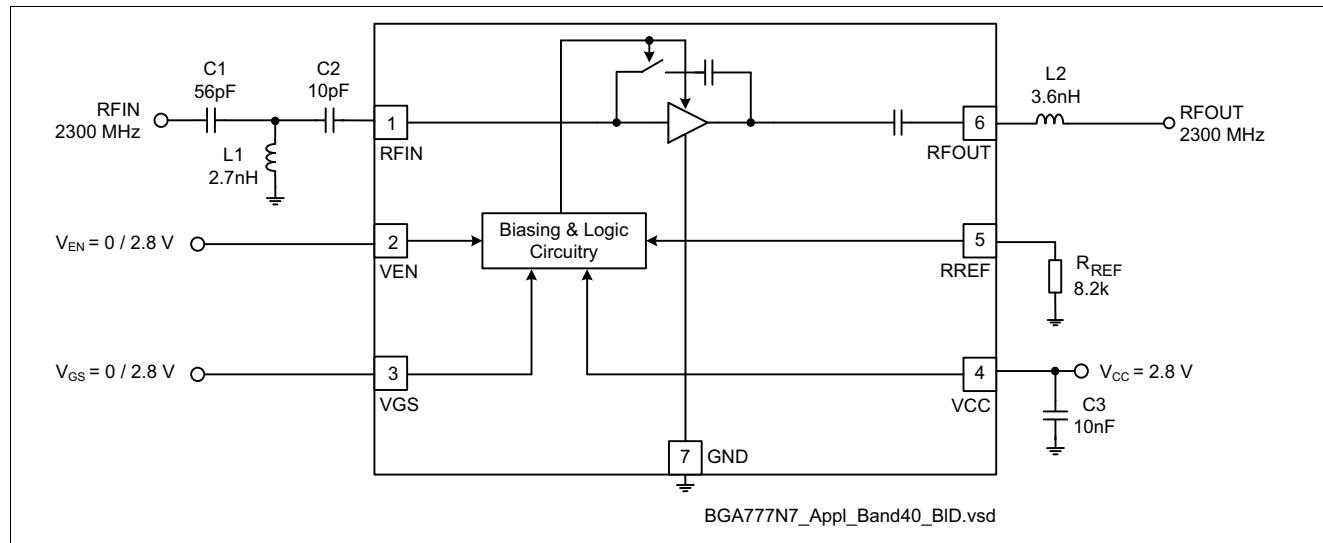

Figure 4 Application Circuit with Chip Outline (Top View)
1) Performance based on application circuit in Figure 4 on Page 30